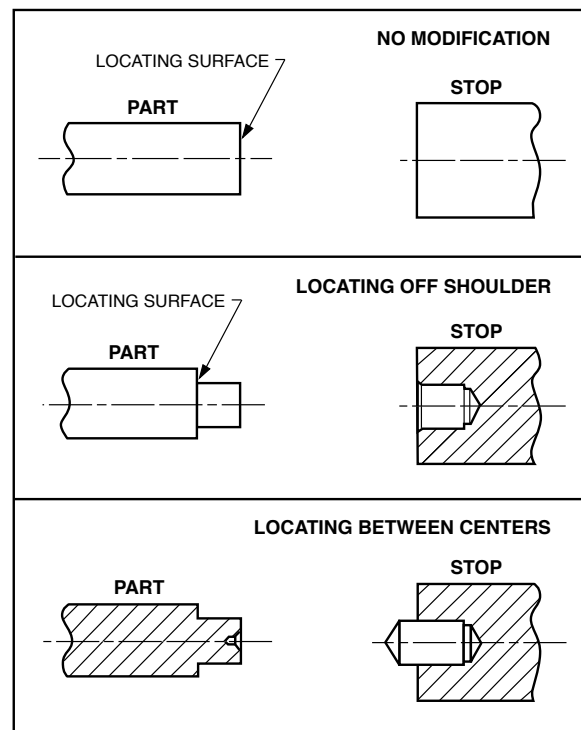

Figure 2 — Typical End Stop Modifications
3. The **End Stop** can be modified if the back end of the part needs to be located off a shoulder or between centers. (Refer to Figure 2)